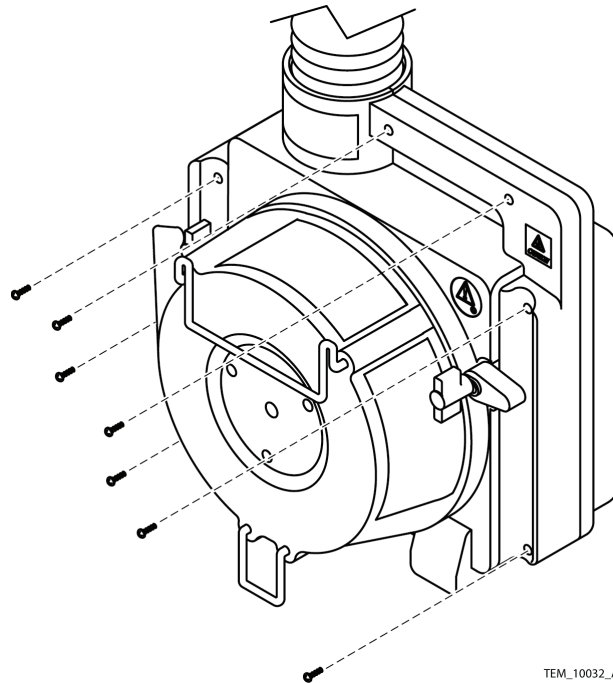

Figure 21. Cover Screw Locations
2. Install the screws through the holes in the rear cover to attach it to the front cover. Tighten screws to 7 to 10 in/lbs (18 to 25 cm/kg). See Figure 21.